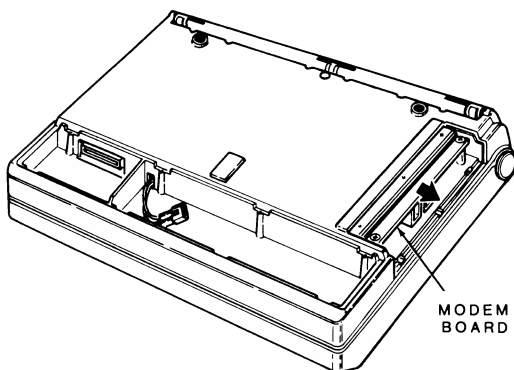

Figure 19-4. Modem Card Removal
4. Refer to Figure 19-4 and remove the modem card by gently pulling on one side of the card and then the other, as illustrated.